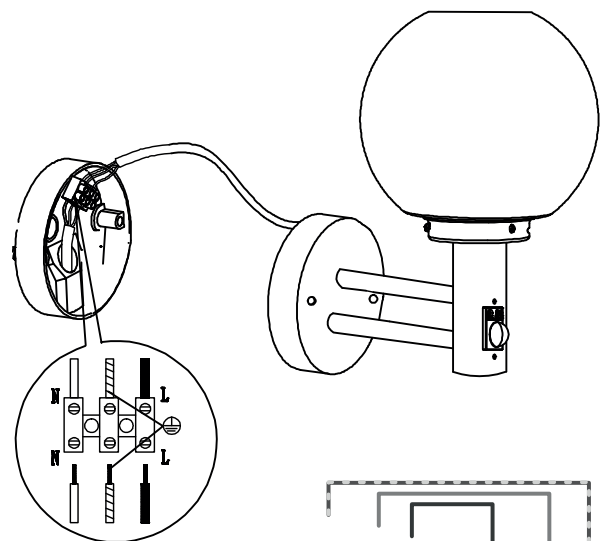

FIGURE 3
- (2) Connect the BROWN wire to terminal block "L" mark. Connect the BLUE wire to terminal block "N" mark. Connect the GREEN / YELLOW wire to terminal block "⊕". (FIGURE 3)